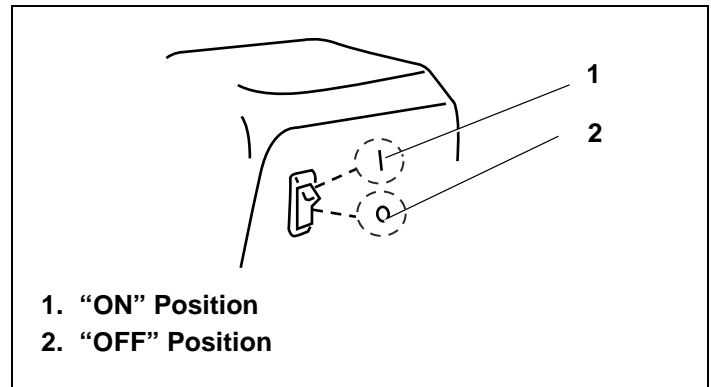

Figure 16. Engine Stop Switch
2. Move engine stop switch or low oil shutdown switch to "ON" position, if present (see equipment manufacturer's instructions). See Figures 16 and 17.